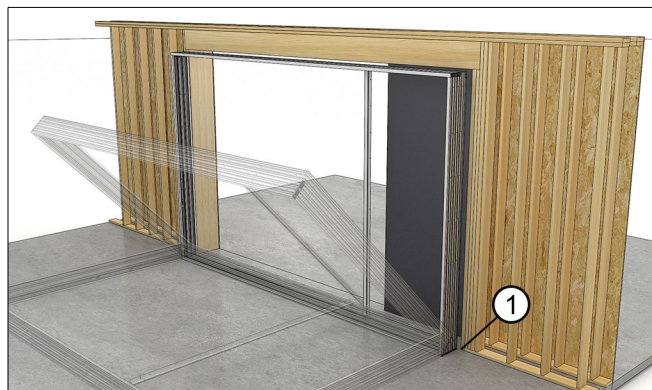

Figure 54
1. Stand the pocket frame upright from the inside and slide into the opening. See Figure 54.